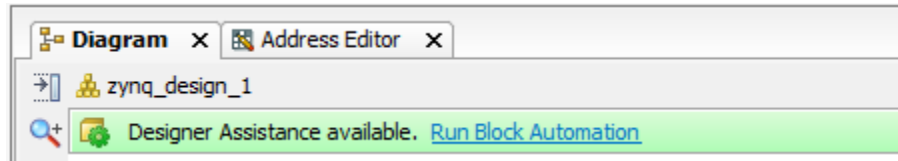

Figure 7: Run Block Automation.
5. In the IP Integrator workspace header, click **Run Block Automation** (Figure 7).